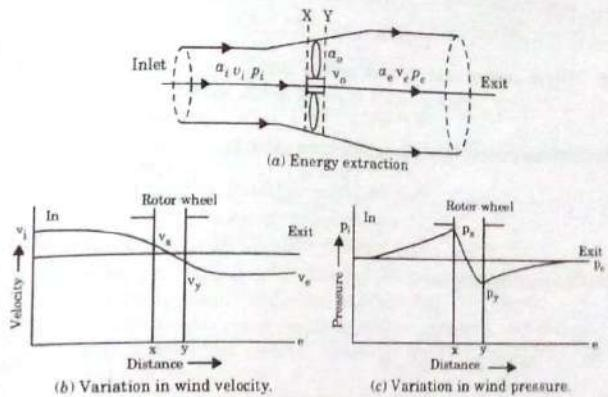

Fig. 4.11.1. Air flow through the rotor.
3. Fig. 4.11.1 shows the air flow diagram on rotor, with variation of wind speed at different sections.